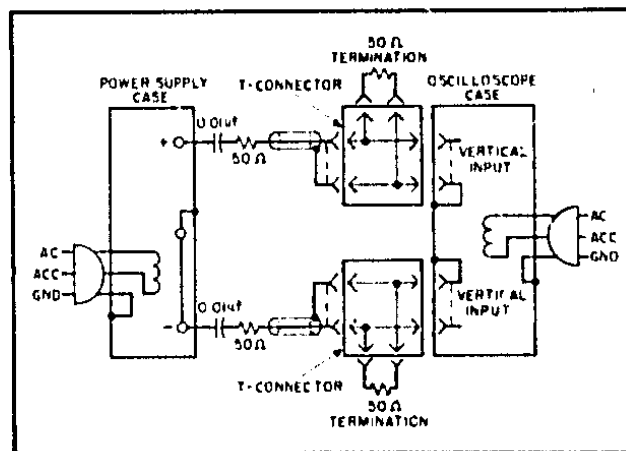

Figure 5-5. CV Noise Spike Test Setup
- As shown in Figure 5-5, two coax cables, must be substituted for the shielded two-wire cable.
5-31 The circuit of Figure 5-5 can also be used for the normal measurement of low frequency ripple and noise; simply remove the four terminating resistors and the blocking capacitors and substitute a higher gain vertical plug-in in place of the wide-band plug-in required for spike measurements. Notice that with these changes, Figure 5-5 becomes a two-cable version of Figure 5-4C.